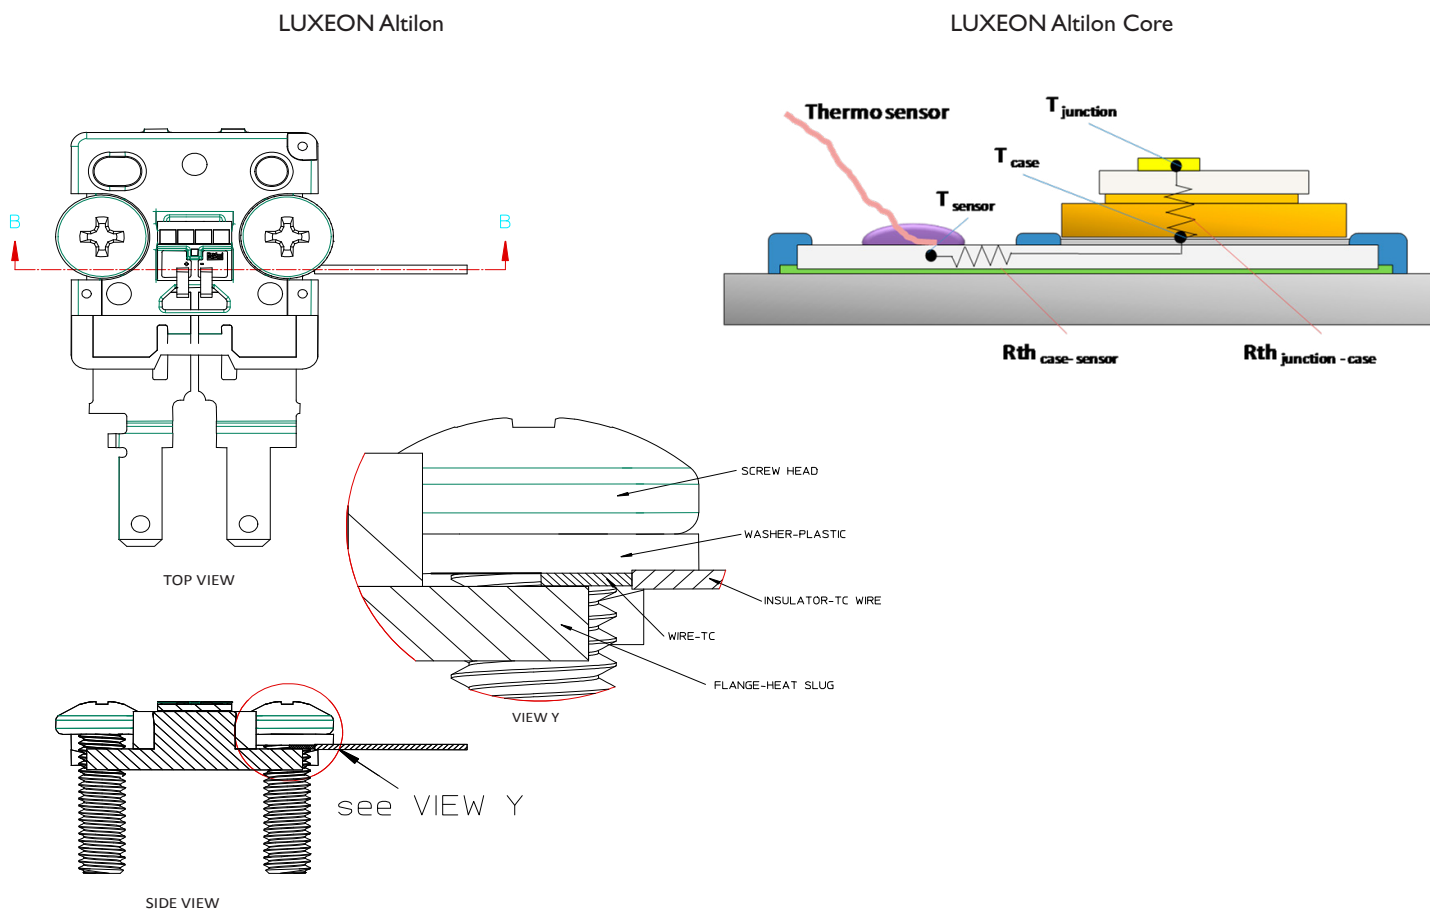

Figure 7. Case temperature measurement.
- As measured at the position indicated in Figure 7.